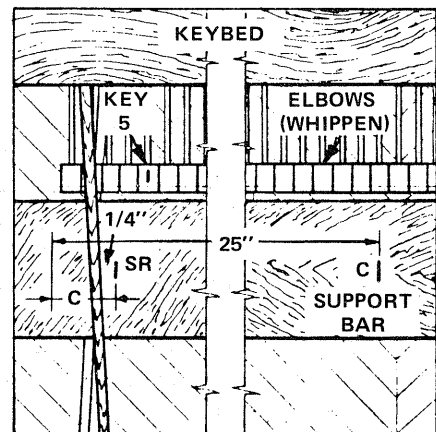

FIGURE 1-28 Measure dimension C and mark the Support Bar.
- B. If the measurement ends AT, BEHIND, or to the LEFT of the Pedal Dowel next to the FRONT of the Support Bar (see FIGURE 1-28), determine the following:
2. If the  $1-1/2$ " clearance cannot be obtained, determine how far to the RIGHT (dimension C in FIGURE 1-28) the end of the Solenoid rail must be trimmed so its end will be  $1/4$ " to the RIGHT of the Dowel. Write the measurement on Line C under this Step on the Check List and label the mark "SR". See the NOTE below.